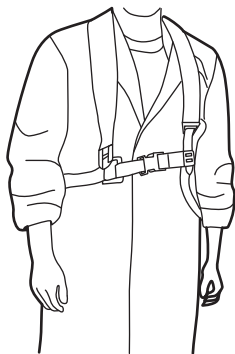

Fig. 14a
- 2). Place the harness so that it runs over the left and right shoulder, crossing the chest and back. The securing clip must be located at the right hip. (See Fig. 14a, 14b)